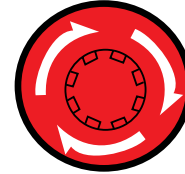

Figure 54. Emergency Stop Button
1. If equipped (option), push the **Emergency Stop Pushbutton Switch** (Figure 54).